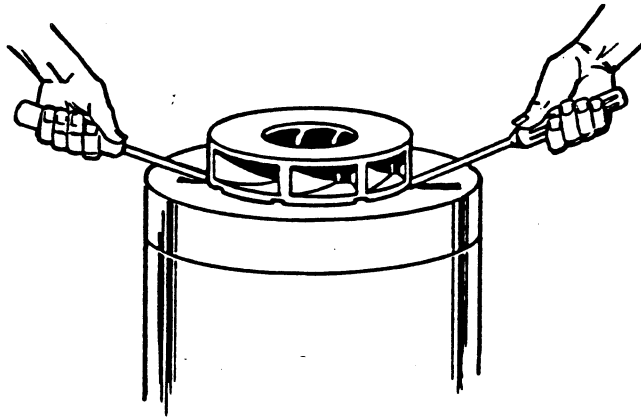

Figure 2. Removing Impeller
Wedge a piece of wood between the vanes of impeller (2) and intermediate stud to prevent shaft rotation. Unscrew locknut (65) and remove flat washer (66). Pry the impeller off using two screwdrivers as shown in Figure 2. Use caution when removing the impeller; tension of the seal spring will be released. Retain the impeller key (67).